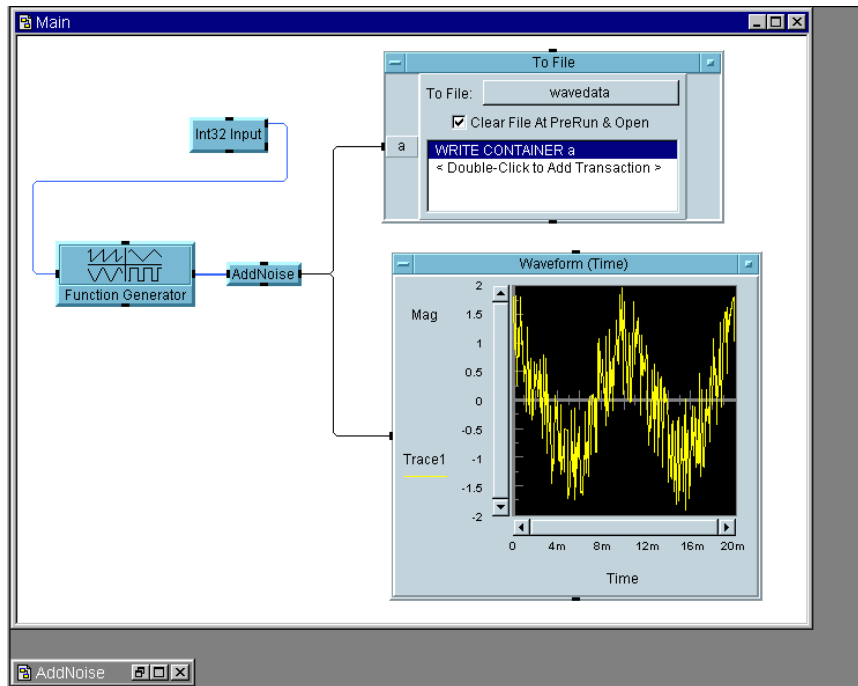

Figure 2-11. Adding a To File Object
4. Connect the data output pin of the `AddNoise UserObject` to the data input pin of `To File`. The program should now look like Figure 2-11.